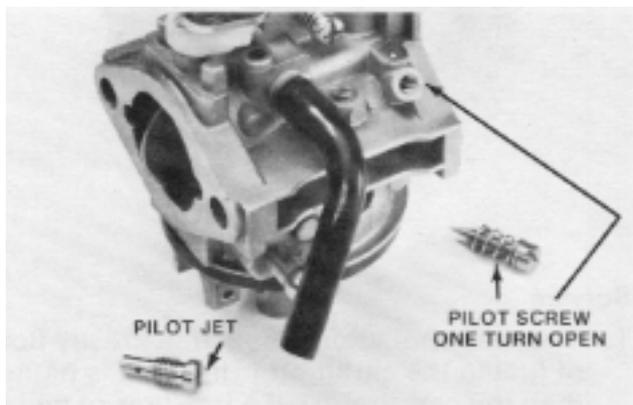

Figure 3-6
The pilot screw controls air in the pilot circuit. It should be open one full turn. See Fig. 3-6.
- Install the pilot jet and pilot screw. See Fig. 3-6. The pilot screw should be one turn open.